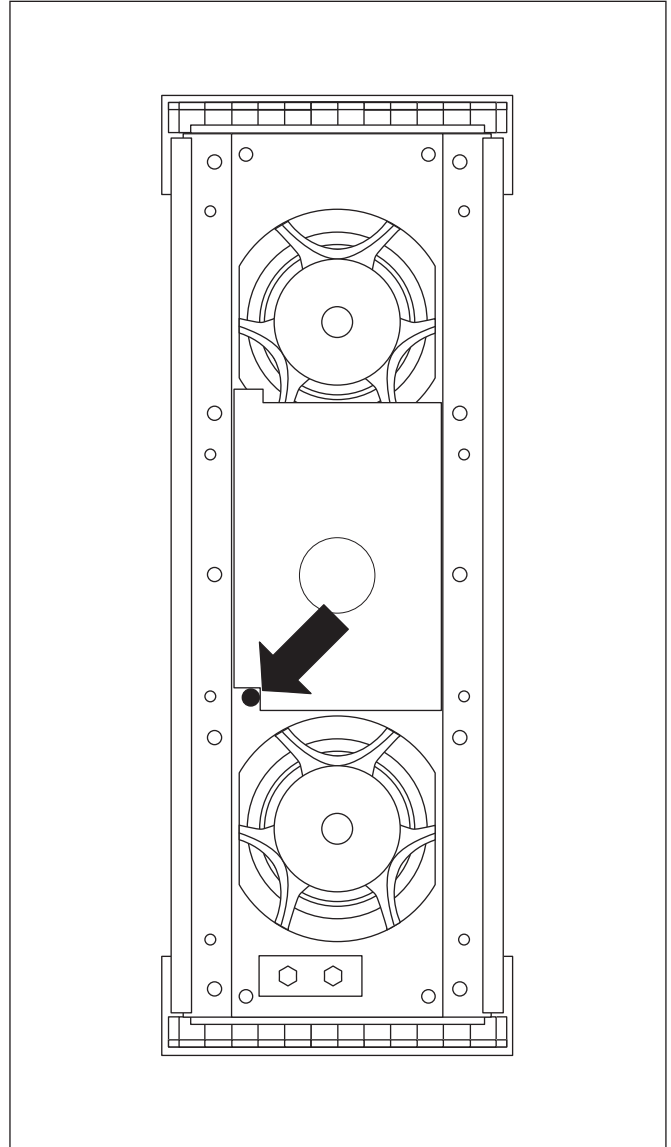

Figure 13. Installing an IR repeater—location to drill hole.
- 2 From the rear of the speaker and at the location shown in figure 13, use a 1/8" drill bit to drill a pilot hole.